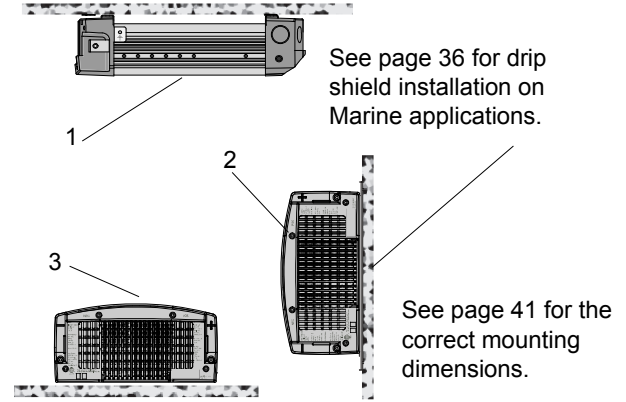

Figure 3 Approved Mounting Orientations
2. Select an appropriate mounting location and orientation. (See Figure 3 below.) To meet regulatory requirements, for use in on-land applications, the Freedom HFS must be mounted in one of the following orientations: